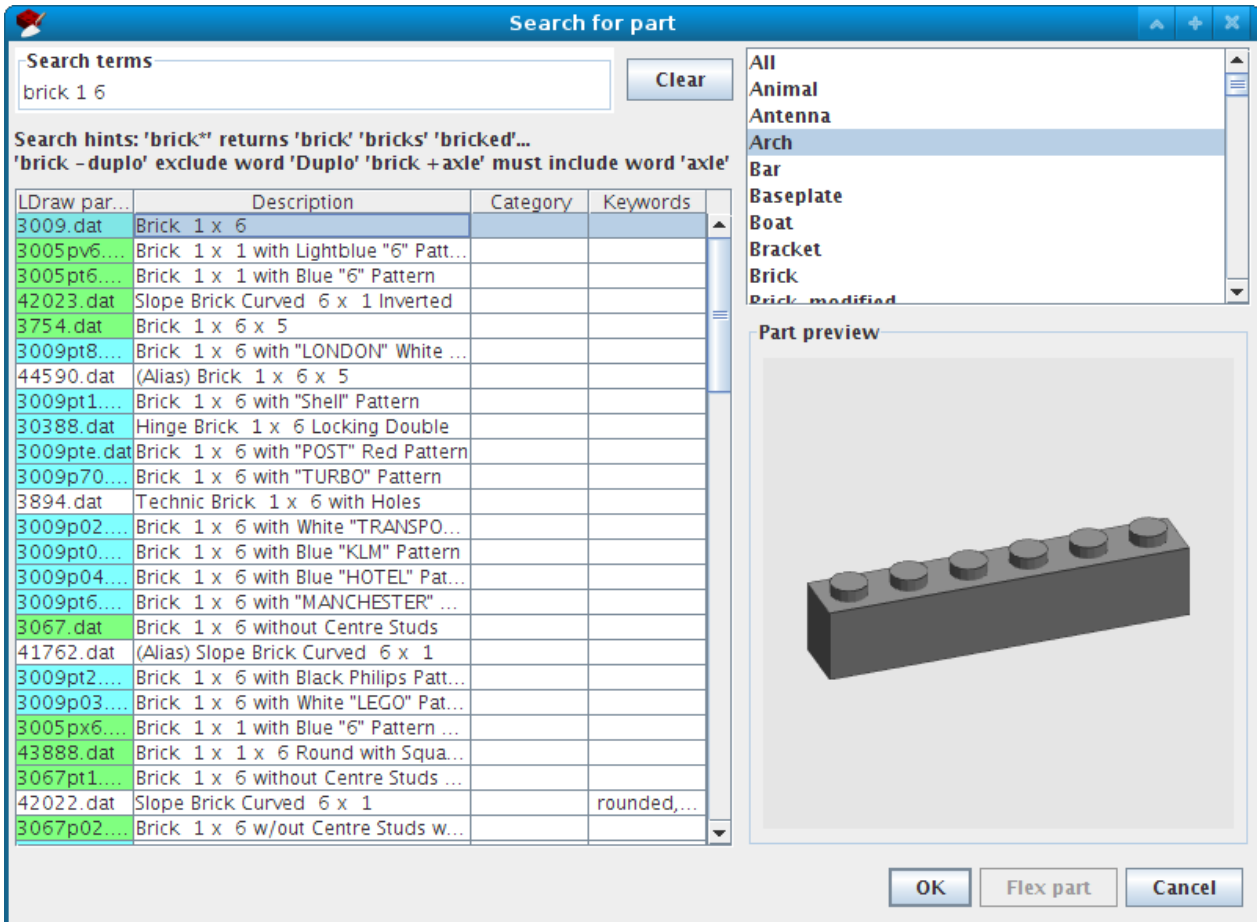

Fig. 10: Part search dialog. Part in green and cyan has connection working and verified.
-  Add a part from LDraw library. Shows a dialog (Fig. 10) to search and select a part from library. Part can be rotated using arrow keys on keyboard, and part color can be changed on the fly, selecting new color from color toolbar. Part can be searched with two different mode: